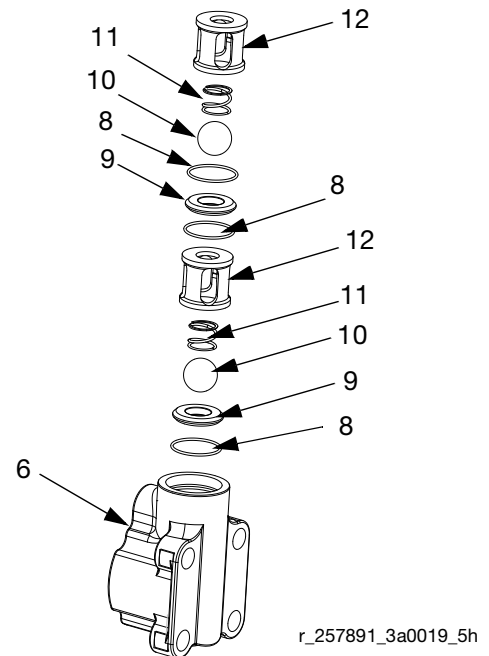

FIG. 3
3. Remove inlet cap (13) from inlet housing (6), and remove o-ring (8).
- a. Remove upper ball cage (12), spring (11), ball (10), o-ring (8) and seat (9).
- b. Press lower ball (10) off seat (9) from fluid inlet and drain the inlet housing (7).
- c. Remove o-ring (8), lower ball cage (12), spring (11), ball (10), seat (9), and o-ring (8). See FIG. 3.